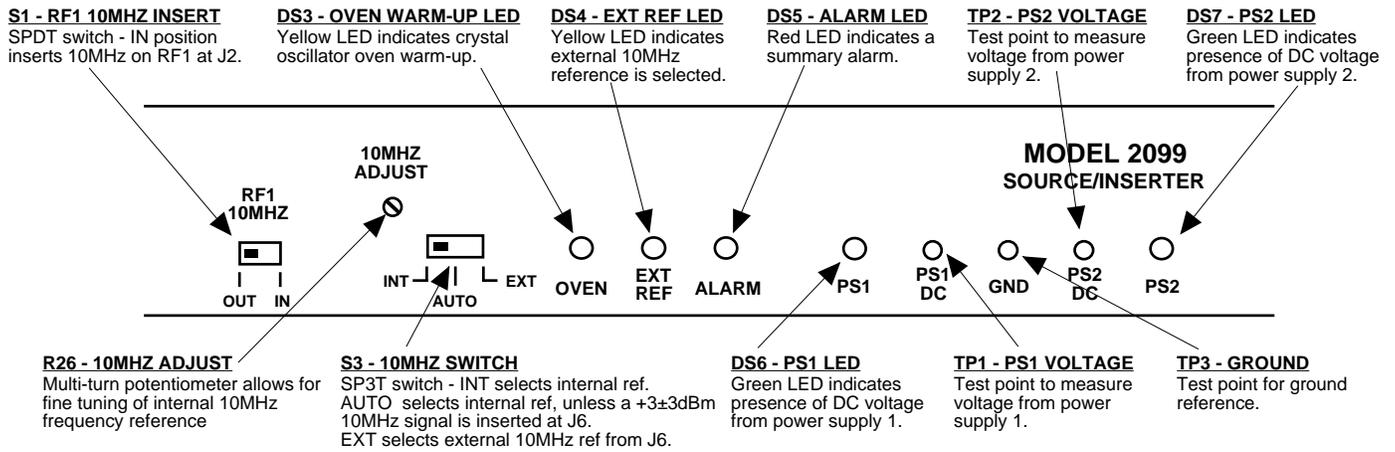

FIGURE 2.3 Front Panel Controls and Indicators
Figure 2.3 shows the front panel controls and indicators.
5. Select which reference mode to use (INT, AUTO, or EXT) using SP3T switch, S3 (Fig. 2.3).
6. Select whether or not to insert 10MHz on RF1 and make selection using SPDT switch, S1 (Fig. 2.3).
8. Adjust the internal reference, if needed, using the 10MHZ ADJUST potentiometer (Fig. 2.3).
12. Be sure DS6 (PS1 DC, green) and DS7 (PS2 DC, green) are on (Fig. 2.3).
13. Monitor PS1 and PS2 voltage levels using provided test points (Fig. 2.3).
14. Wait for DS5 (OVEN, yellow) to go off to insure that the oscillator oven is stabilized (Fig. 2.3).